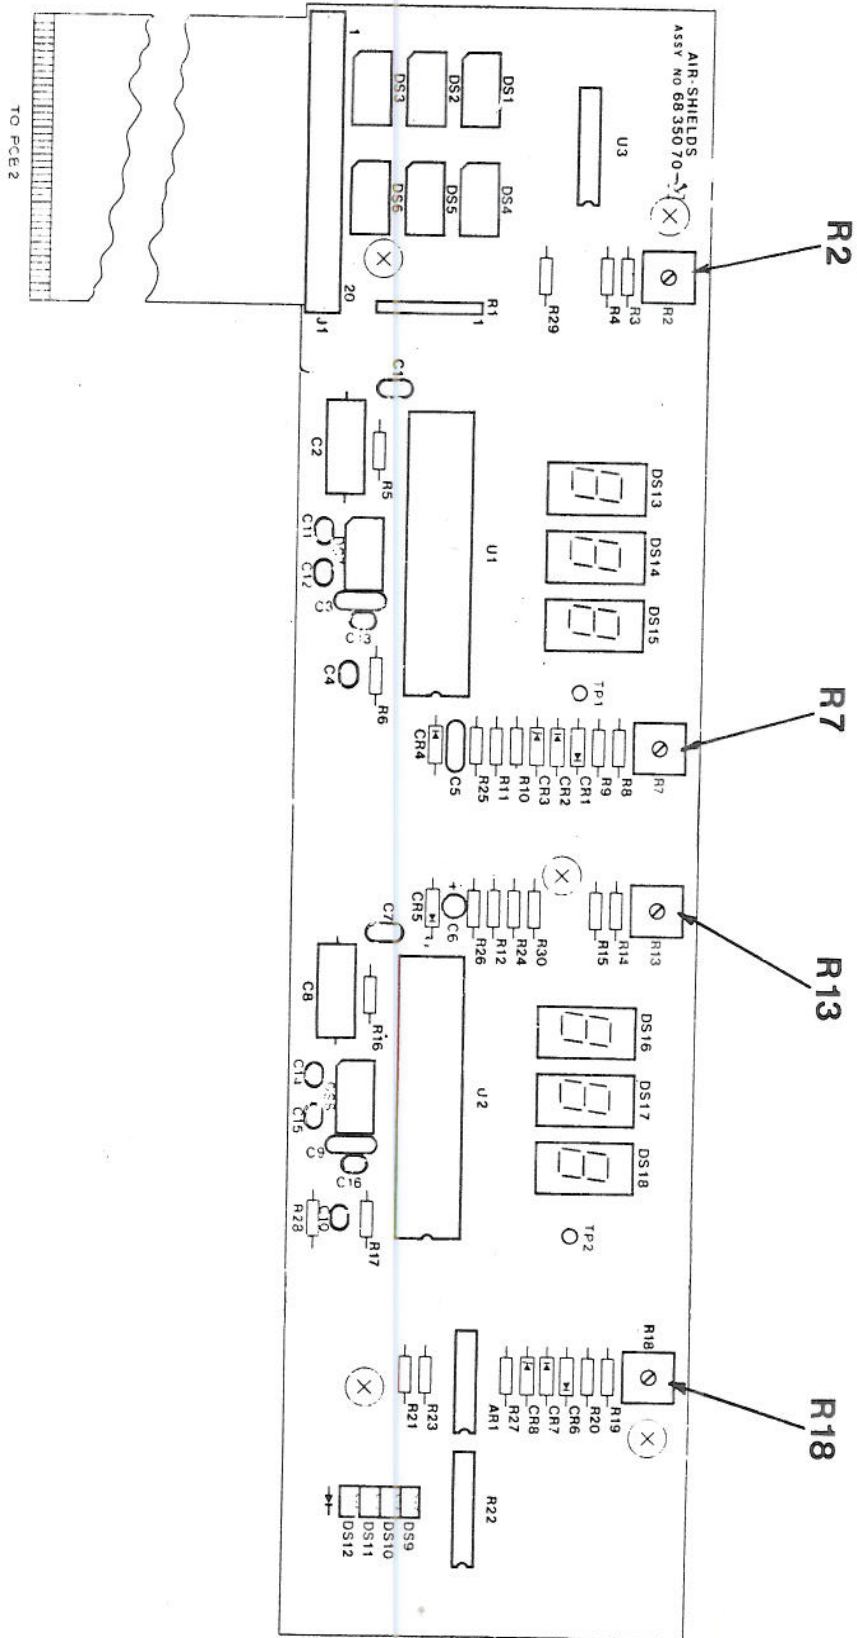

FIGURE 5.2 PCB 1, LOCATION OF TEST POINTS AND ADJUSTMENTS
2. Connect the Simulator to the PATIENT PROBE and AUXILIARY PROBE jacks on the Side Panel. Set the Simulator to 36°C . Set the Control Unit and Simulator to SKIN mode. Refer to Figure 5.2 for location of test points and adjustments.